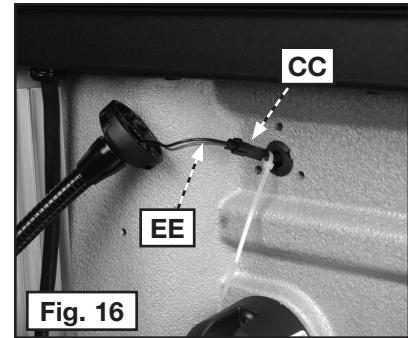

Fig. 16
2. Connect the two wires — (CC) from the headstock and (EE) from the LED worklight — as shown in Fig. 16.